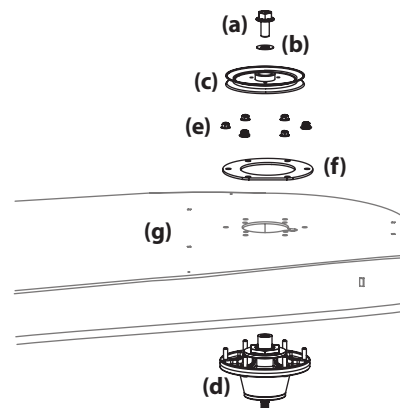

Figure 40
6. Remove the hex flange bolts (a) and flat washers (b) securing the left and right spindle pulleys (c) to the spindle assembly (d). See Figure 40.
7. Remove the six (6) flange lock nuts (e) securing the left and right spindle assemblies (d) and the support plates (f) to the deck shell (g). See Figure 40.
10. Reverse the process to install the spindle assembly. When installing the new spindle assembly be sure to install the hardware exactly as shown in Figure 40. Torque the hex flange bolts to 250 ft-lbs. (338.95 N-m) and the flange lock nuts to 21-32 ft-lbs (28.47-43.39 N-m).